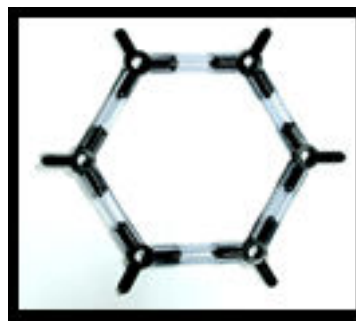

Fig. 1 A hexagon of carbon atoms
1. Construct a hexagon with six of the 3-peg carbon atom centers and six clear tubes. (Fig. 1)